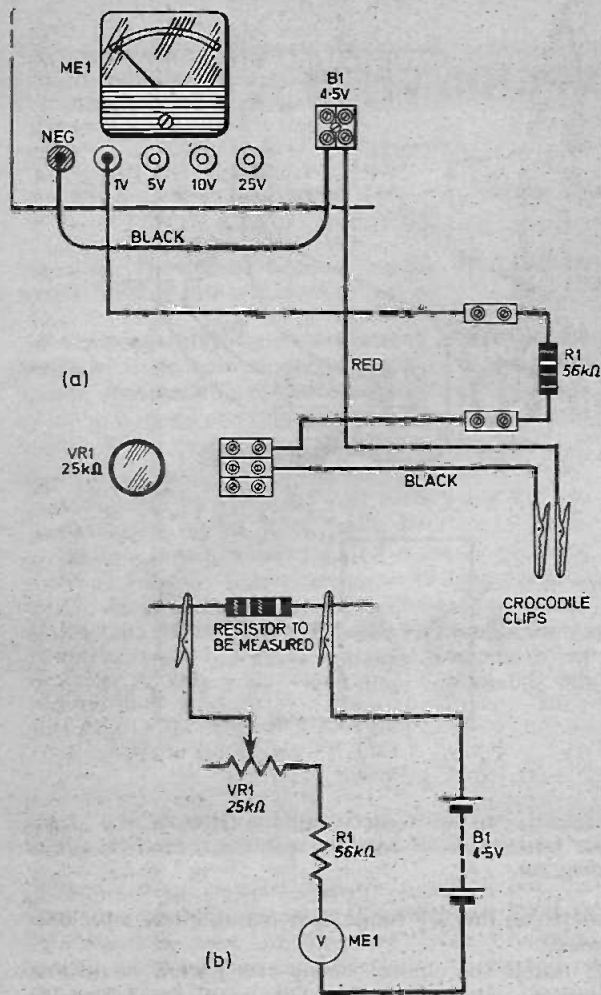

Fig. 3C.1. The layout and wiring details on the Circuit Deck for experiment 3C. Also shown is the theoretical circuit diagram.
1. Connect up as shown in (Fig. 3C.1) using the meter in the 1V range and set the 25 kilohm potentiometer fully anticlockwise.